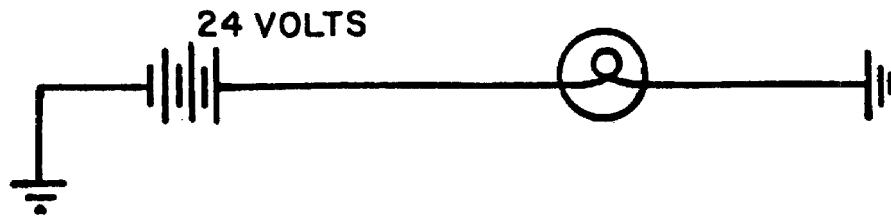

Figure 1-6. Series Circuits.
(2) Figure 1-6 shows a series circuit consisting of one or more units connected in series (negative to positive) to form a single path for current to flow. Most everyone is familiar with the old type of Christmas tree lights where all of the bulbs go out when any one of the bulbs burn out. These lights are connected in series (negative to positive). A break anywhere in the circuit will cause all of the lights to go out.